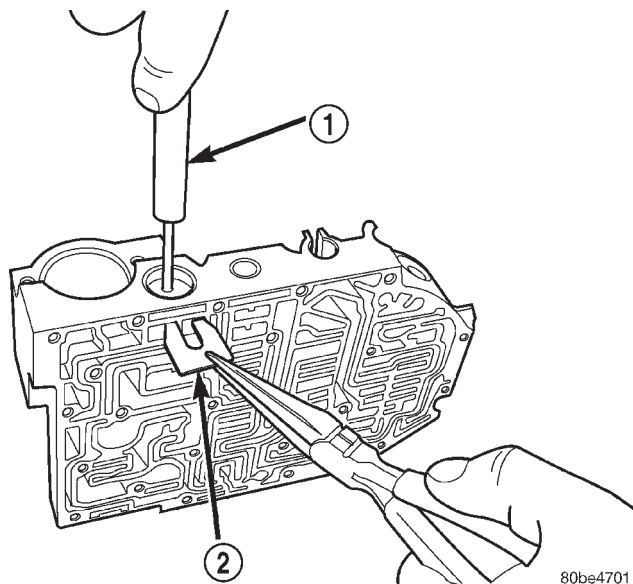

Fig. 133 Remove Regulator Valve Spring Retainer using Tool 6302
(15) Remove regulator valve spring retainer (Fig. 133).